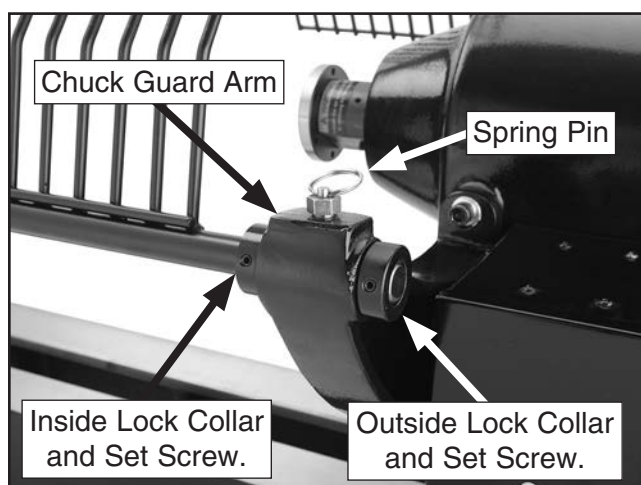

Figure 22. Chuck guard installed in mounting arm.
16. Loosen M6-1 x 8 set screw on chuck guard outside lock collar and remove collar from shaft (see **Figure 22**).
17. Loosen set screw on inside lock collar so collar moves freely (see **Figure 22**).
18. Insert chuck guard shaft into arm, while lifting spring pin. Gently rotate chuck guard until spring pin settles into detent on shaft (see **Figure 22**).
19. Slide both lock collars up against chuck guard arm and tighten (see **Figure 22**).